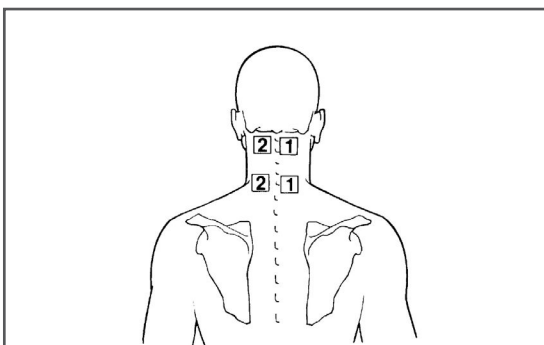

Figure 3-15 Electrode application on the cervical spine Picture to be replaced
e.g. for conditions of pain in the muscles or soft parts, see also Figure 3-15